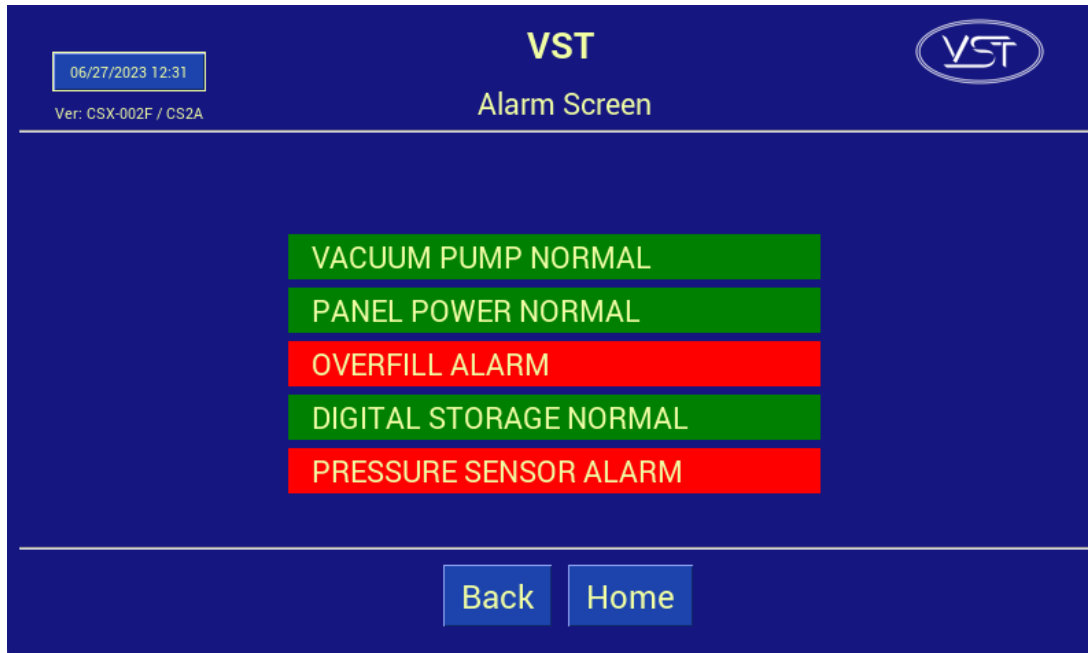

Figure 8-3: Control Panel Alarms and Faults Screen Example
- If an Alarm occurs, the Alarm Screen will show what is in the alarm condition. **See Figure 8-3.**